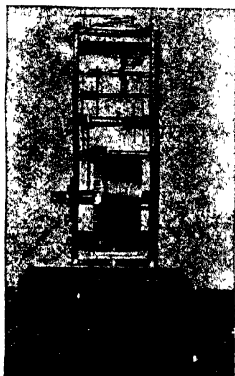

FIG. 71.—French Carriage Clock Movement.
**French Carriage Timepieces.**—Fig. 71 shows the movement of a French carriage timepiece with watch escapement and balance. A pendulum being out of the question in a clock designed for carrying about, resort is had to a balance and
hairspring similar to that in a watch. So it may be said that up to the fourth wheel the movement illustrated in Fig. 71 is a clock, and beyond that it is a watch. The cleaning and repair of these clocks is really work for a watchmaker, but a few directions will be here given, by following which a clock-maker may be enabled to clean one.
These clocks have going barrels, wheels, and pinions exactly like the movement in Fig. 57 (p. 54), and Fig. 71 shows the arrangement of the train very clearly, the barrel being at the bottom, and the "platform" containing the escapement, across the top. They are fitted into cases made of brass, nicely gilt, and have glass sides and top enabling the movements to be seen. To take one apart the bottom of the case must first be removed. Stand the clock upside down upon a leather on the board, to prevent scratching of the gilding, and remove the small centre screw from the case bottom. This holds a thin sheet of brass which acts as a sort of false bottom; when this has been removed, four large screws will be seen at the corners going through into the pillars of the case. Remove these and lift out the movement bodily, still attached to the base of the case, as in Fig. 71.